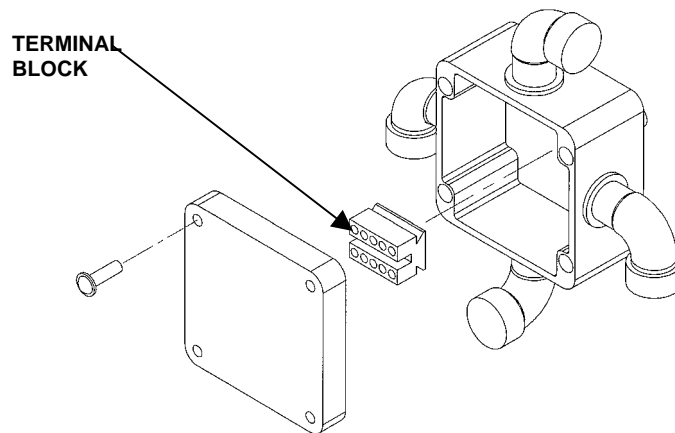

Figure 3. Terminal Block.
4. Remove high-pressure switch conduit from hub (6).
5. Remove low-pressure switch conduit from hub (3).
6. Remove emergency shutoff switch conduit from hub (7).
7. Remove control panel cable from hub (8).
8. Remove four screws (1), nuts (5), and washers (4) from junction box (2).
9. Remove the end stops on the mounting rail and pry off the terminal block from the mounting rail. See Figure 3.